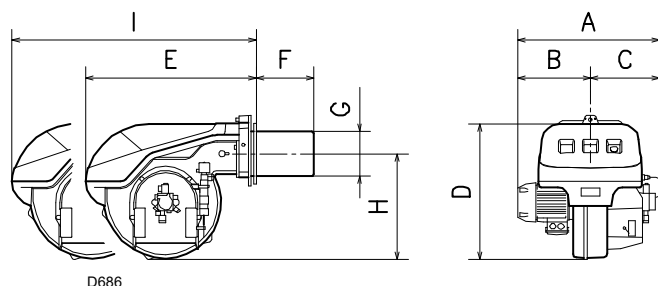

Fig. 2
4.3.2 Max. dimensions (Fig. 2) - approximate measurements
The maximum dimensions of the burner are given in Fig. 2.